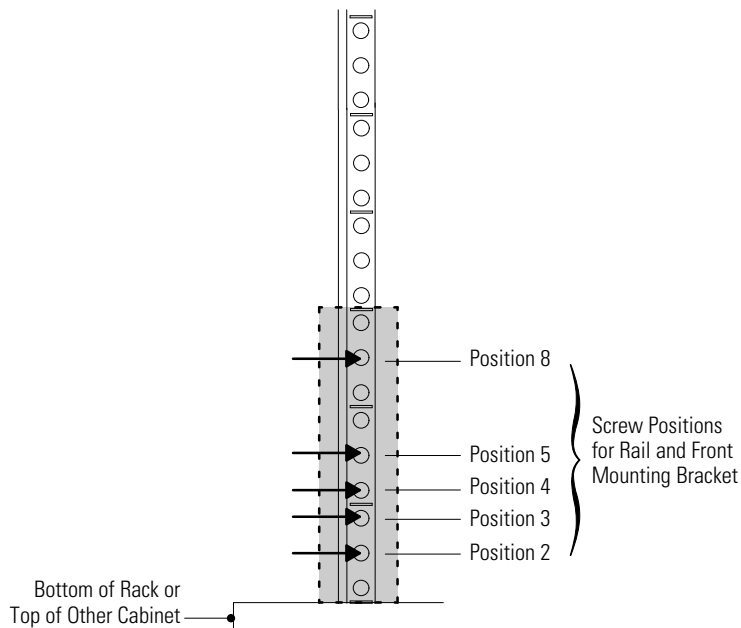
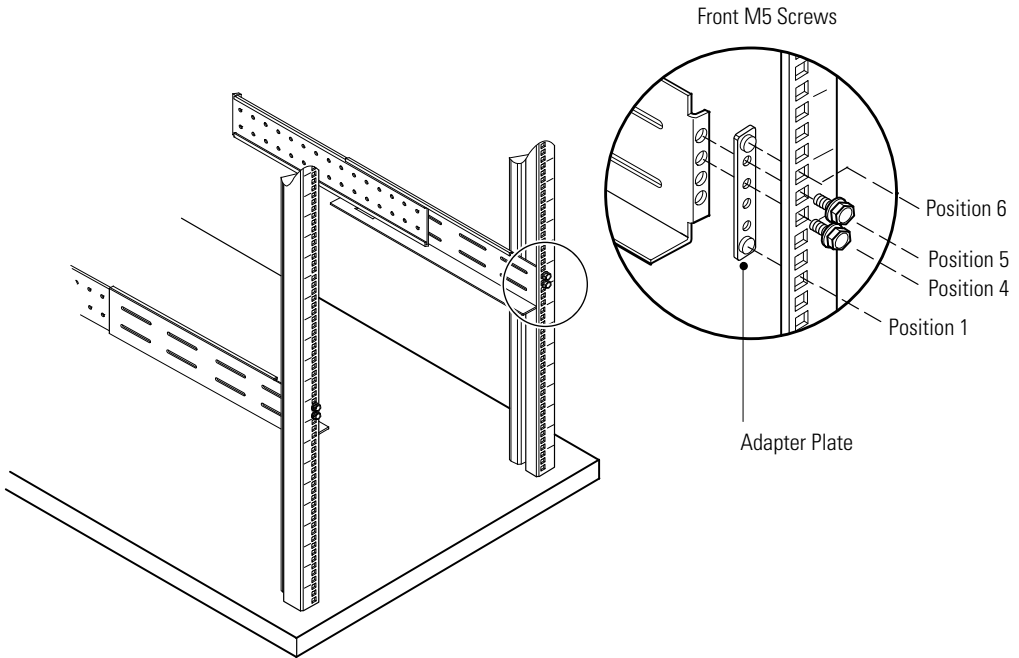

Figure 2. Front Rail Screw Positions for the EBM
Figure 3. Securing the Front Rail
1. Select the proper holes in the rack for positioning the EBM in the rack (see Figure 2).
3. Using two M5 machine screws and an adapter plate, attach the rail to the front of the rack (see Figure 2 and Figure 3).